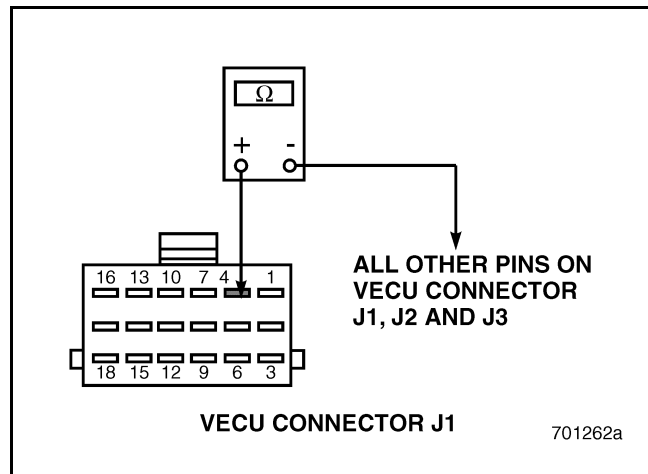

Figure 508
4. Check for continuity between VECU connector J1 pin 4 and all other pins on VECU connectors J1, J2 and J3 (see Figure 508).